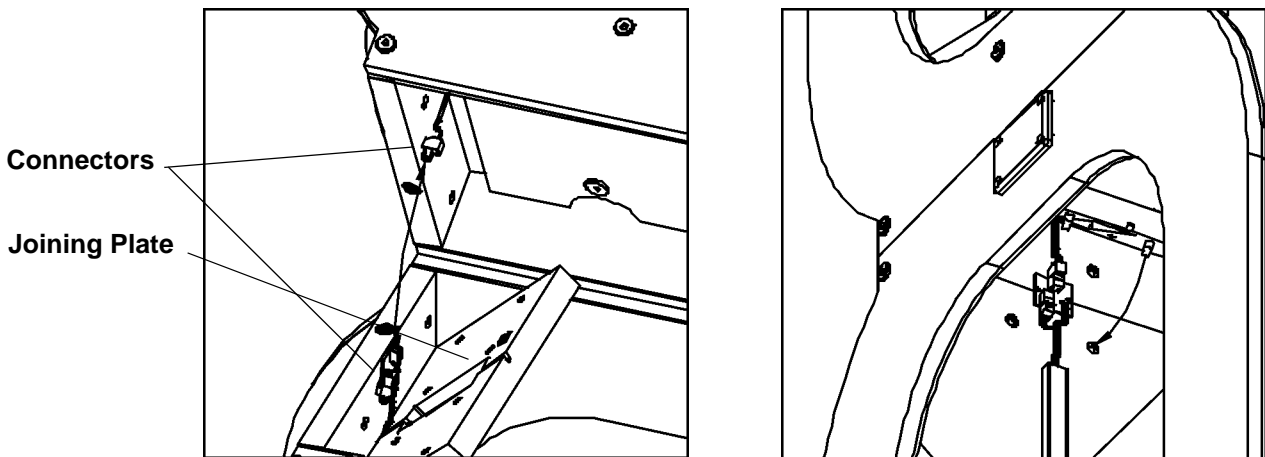

Figure 8: Antenna Electrical Connection
3. Make the electrical connection between the two halves as shown in Figure 8.